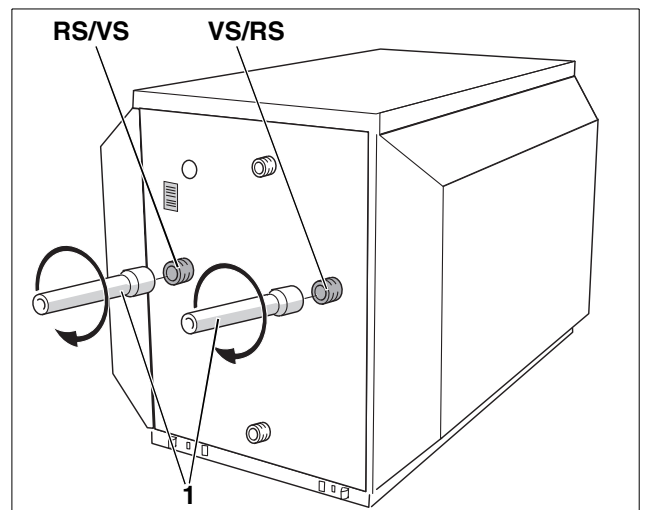

Fig. 7 Assembly of rear carrying pipe stubs
- Screw two 1" coupling on two pipe ends (Fig. 7, Item. 1).